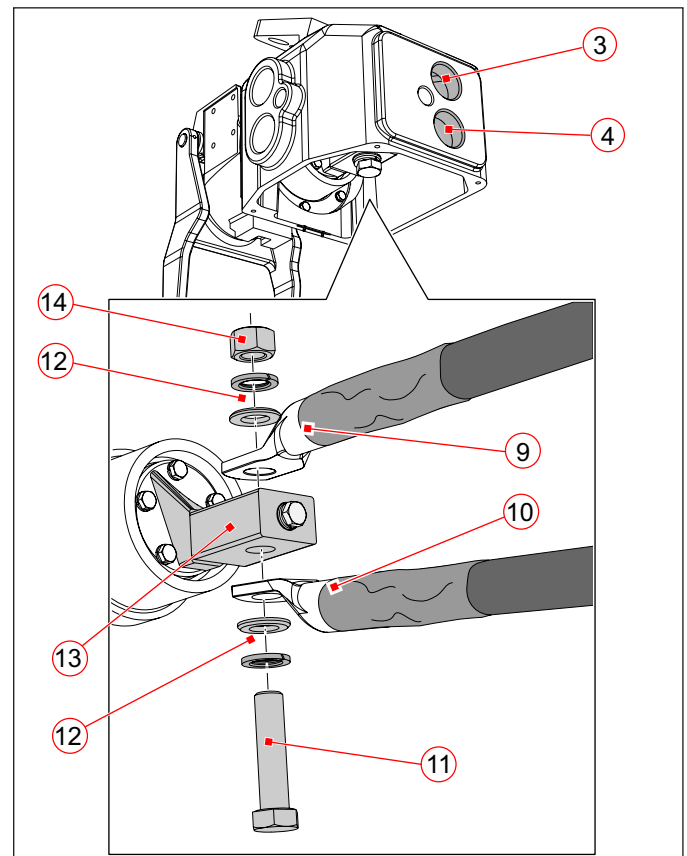
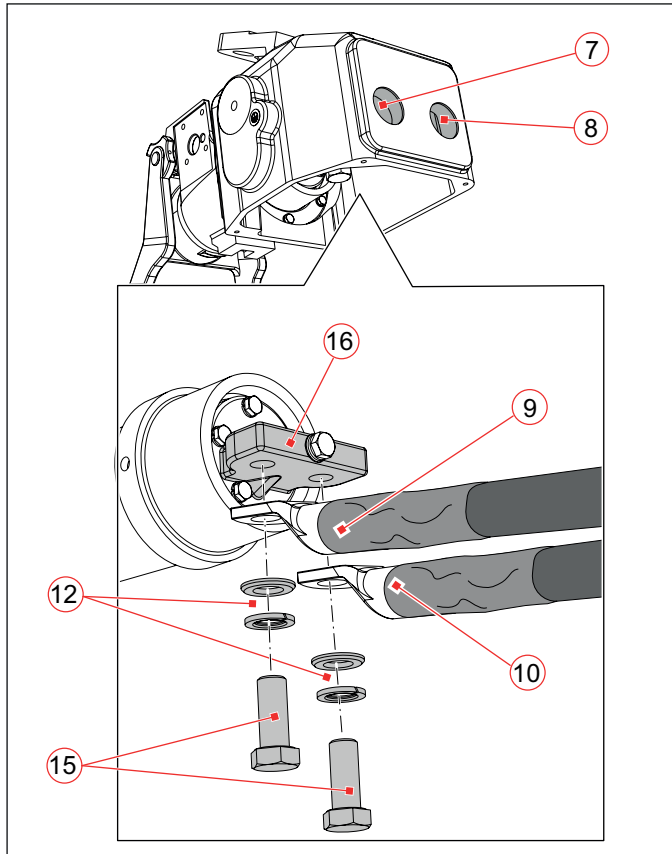

Fig. 9: Cable connections 2x at the back, vertical
Fig. 12: Cable connections 2x at the back, horizontal
- ▶ Depending on the type of cable connection (laterally, back, see Fig. 9 to Fig. 12), fix the prepared cable glands to the cables or to the cable exits respectively and insert the cables into the coupling receptacle.
Connection 2x at the back, vertical (Fig. 9)
- ▶ For connection type 2x at the back, connect the cables according to Fig. 9 with screw (11), washers as well as spring lock washers (12) and nut (14) to the connecting piece (13).
Connection 2x at the back, horizontal (Fig. 12)
- ▶ For connection type 2x at the back, horizontal, connect the cables according to **Fig. 12** with screws (15) and washers as well as spring lock washers (12) to the connecting piece (16). In doing so, screw both cable lugs (9 and 10/exit at the back) from below to the connecting piece (16). Torque for the cable connecting screws: 200 Nm